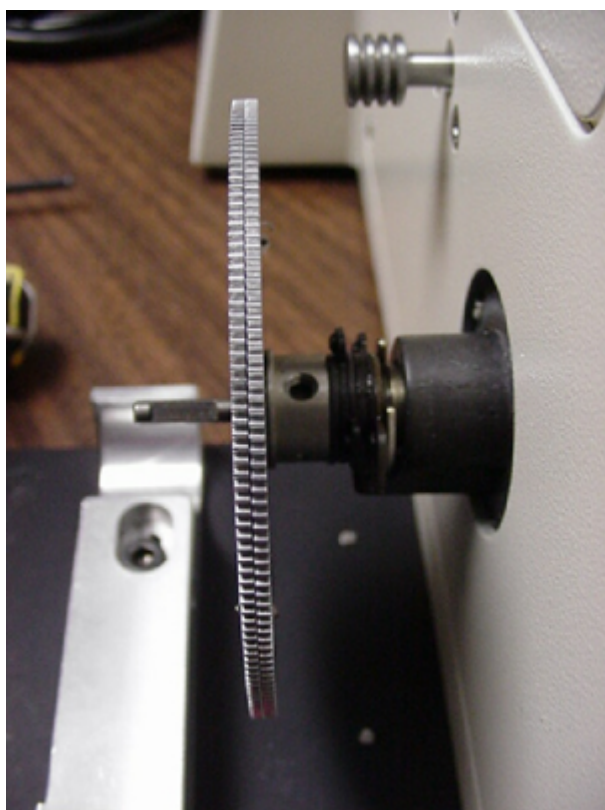

Figure 4. Shown with antibacklash gear installed. However, note that baseplate is flush with the side of the microscope.
- 3) If needed loosen, but do not remove, the two adjustment screws on the bottom of the ASI base plate. Then slide the back base plate up against the microscope body until it is flush and parallel with the microscope body as shown in figure 4 below.